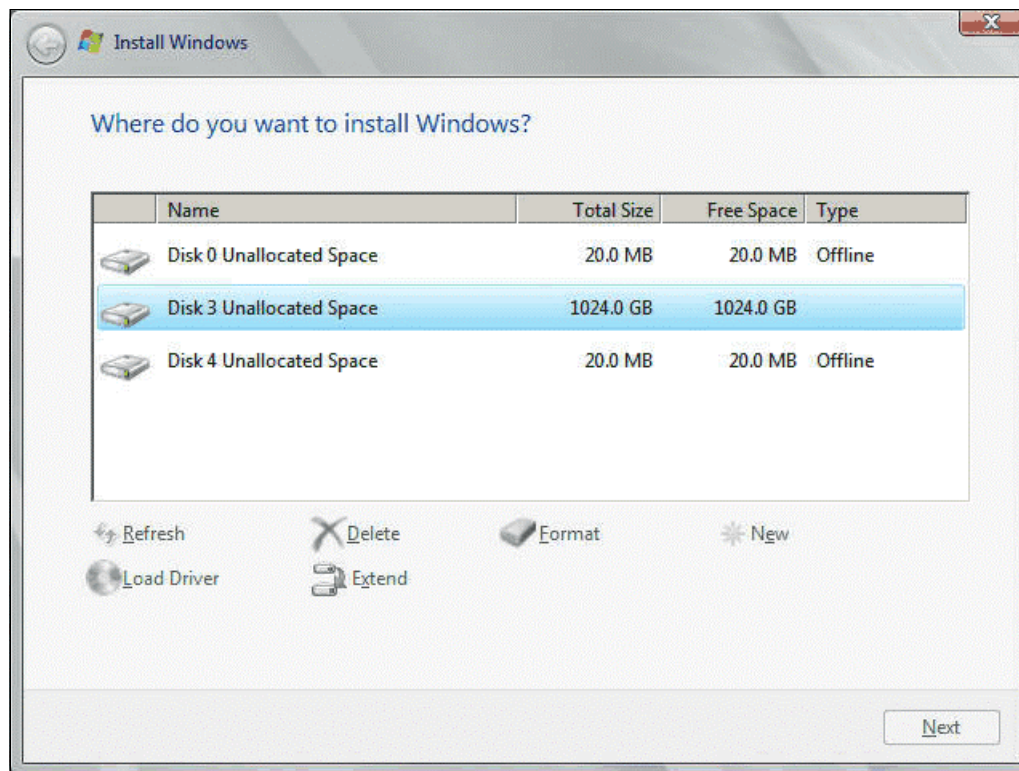

Figure 5-76 Boot Volume on Storage
8. Verify that the boot volume allocated on storage is visible by the HBA (5.5, “Host configuration” on page 312). The disk information will be updated after Rescan, as shown in Figure 5-76.